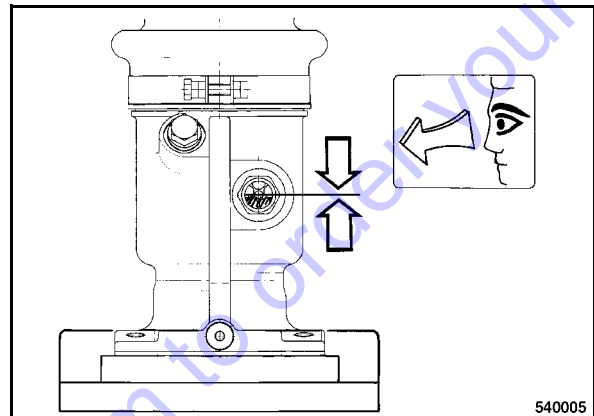

Fig. 55
- Clean the inspection glass (Fig. 55) and check the oil level.